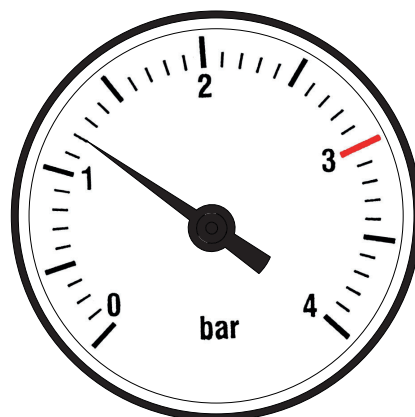
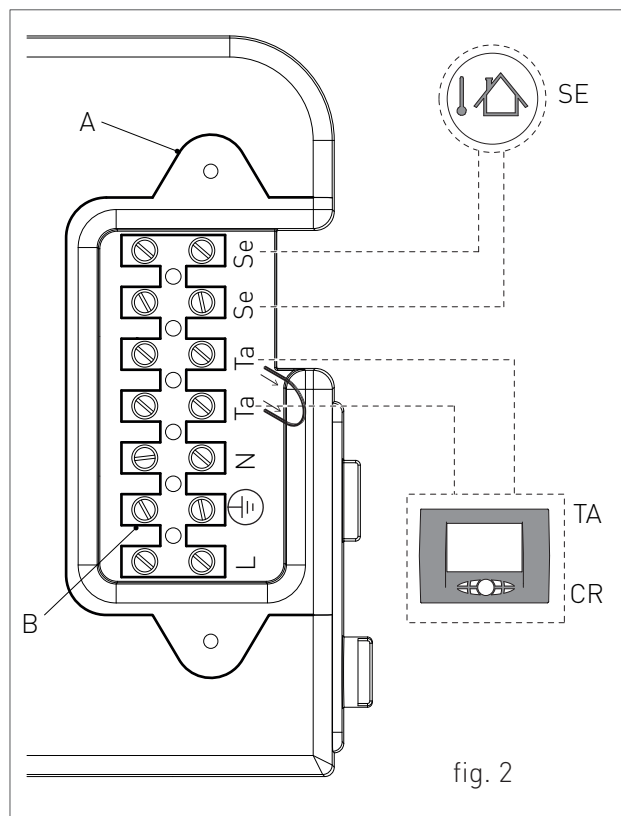

fig. 4
fig. 2
3. open the feeding tap "R" (fig. 2);
5. use pressure gauge "M" (fig. 2) to make sure that the system pressure reaches 1.2 bar (fig. 4);
6. after performing this operation, make sure that the loading tap "R" (fig. 2) is properly closed.
8. if after performing these operations you observe a decrease of the water pressure inside the system, open once again the loading tap "R" until the pressure gauge indicates the value of 1.2 bar (fig. 4)
- › remove the front casing of the boiler (see chapter ACCESSING THE BOILER); unscrew the screws and remove plate "A" (see fig. 2).
- › After removing the plate, connect the electrical cables to terminal "B" (see fig. 2):